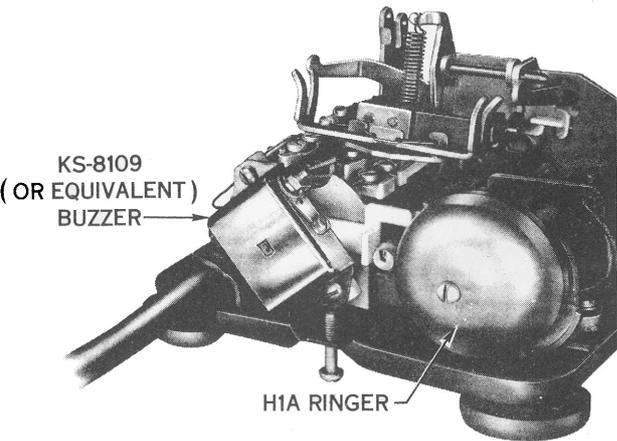

Fig. 6 – Location of KS-8109 Buzzer
2.16 A bracket is provided on the H1A ringer to mount a KS-8109 buzzer (Fig. 6). A second